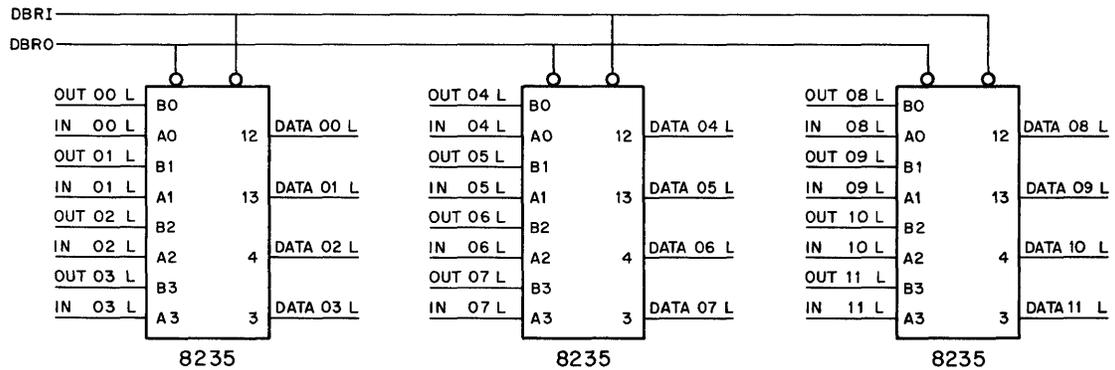

Figure 4-50 AC Bus Register
The clear sides of the flip-flops in the Output Register are applied to the AC Bus Register (see Figure 4-50) for transfer to the AC when a DBRO instruction is performed. INITIALIZE will clear all flip-flops in the Output Register as it is tied to the clock input and the data input is grounded. A high on the clock input from the inverter will clear the flip-flop if the data input is low.
4.5.2.5 AC Bus Register – The AC Bus Register (see Figure 4-50) will have OUT 00 L – OUT 11 L and IN 00 L – IN 11 L applied to it from the Output and Input Registers. The AC Bus Register will select the contents of either the Output or Input Register to be applied to the Data Bus for transfer to, or from, the AC. The DBRI and DBRO instructions are applied as control inputs for the 8235 IC. See Appendix A of the *PDP-8/E Maintenance Manual* for the truth table, logic diagram, and pin locator for the 8235 IC. DBRO will enable gates to select the Output Register contents; DBRI will enable gates to select the Input Register contents. The selected output will be applied to the Data Bus to load the AC.